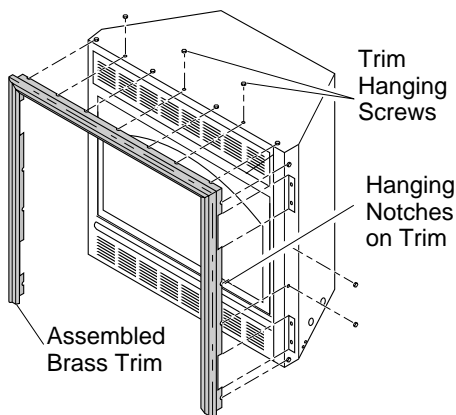

Figure 7 - Attaching Brass Trim to Fireplace
- Tighten trim hanging screws (#10 x 6.25 shoulder) into holes in cabinets. Place the assembled trim onto fireplace cabinet. Align hanging notches on trim with hanging screws on side of fireplace (see Figure 7). Push trim firmly into place, sliding hanging notches over hanging screws.
- Install brass trim after final finishing and/or painting of wall (see Figure 7, page 8).